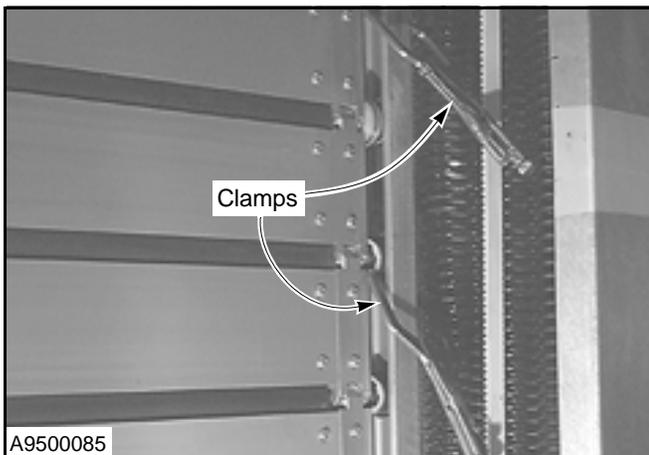

Figure 46
4. Place clamps across the exposed door track to secure the door and prevent it from accidentally falling once belt tension is released. (See Figure 46.)